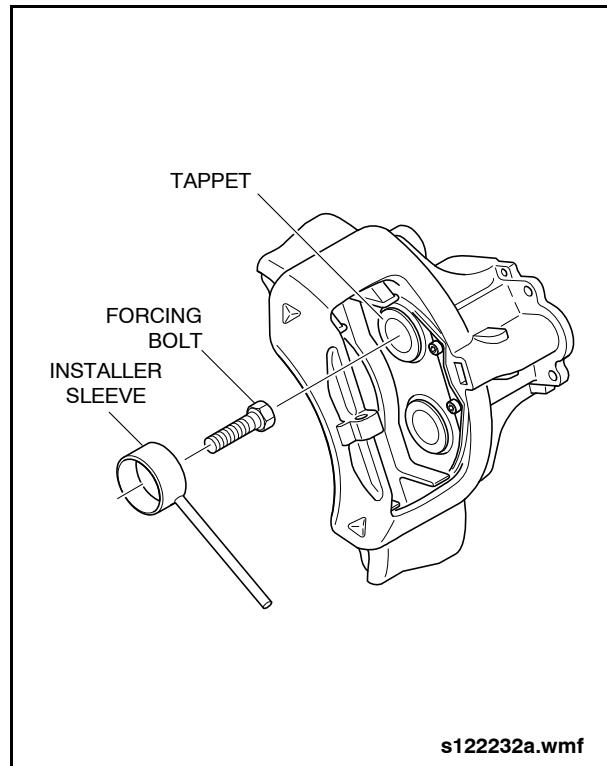

Fig. 2-140: Seating Tappet Against Stop
10. Reverse the position of the installer sleeve so that the open end is facing away from the tappet and boot assembly and the head of the forcing bolt is facing the tappet. See "Fig. 2-140: Seating Tappet Against Stop" on page 118.